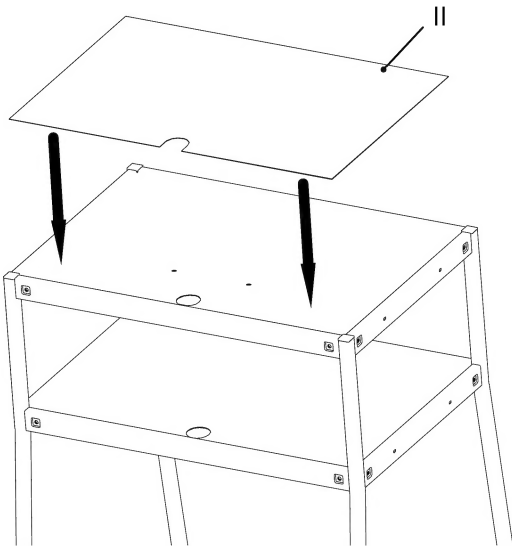

FIGURE 6
Place the plastic mat (II) onto the top shelf with the slot in the mat aligned over the grommet hole in the shelf as shown in **FIGURE 6**.